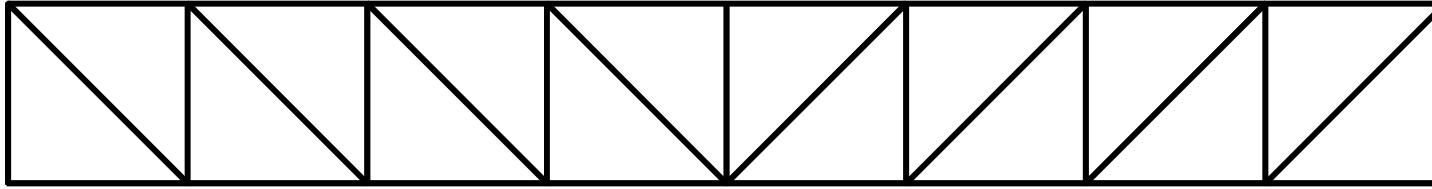

Figure 1
- divide truss into 6 or 8 or 10 equal-sized panels, having vertical members and diagonals (Figure 1)